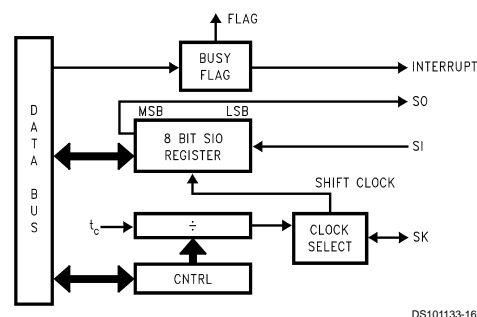

FIGURE 16. MICROWIRE/PLUS Block Diagram
MICROWIRE/PLUS is a serial synchronous communications interface. The MICROWIRE/PLUS capability enables the device to interface with any of National Semiconductor's MICROWIRE peripherals (i.e. A/D converters, display drivers, E2PROMs etc.) and with other microcontrollers which support the MICROWIRE interface. It consists of an 8-bit serial shift register (SIO) with serial data input (SI), serial data output (SO) and serial shift clock (SK). Figure 16 shows a block diagram of the MICROWIRE/PLUS logic.